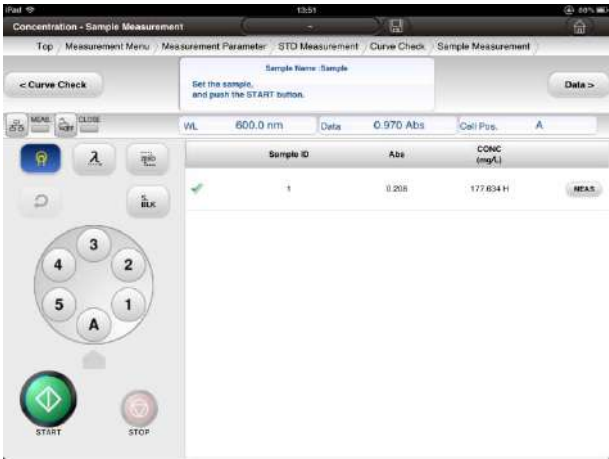

Fig. 4-99 Sample Measurement Window
- (3) After measuring a sample, the absorbance and concentration after measurement will be shown at the corresponding sample position (Fig. 4-99). This window will be shown after measuring each sample.